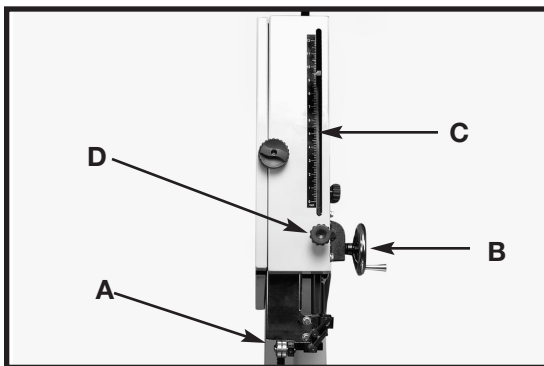

Fig. 21
Set the upper blade guide assembly (A) Fig. 21 as close as possible to the top surface of the workpiece by loosening the lock knob (D) and turning the handle (B) until the guide assembly is in the correct position.
A scale (C) Fig. 21 in increments of 1/8" is located above the assembly.